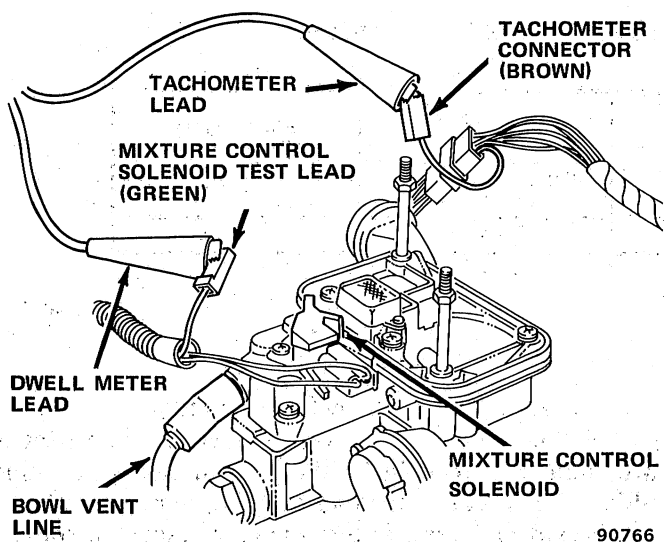

Fig. 1J-157 Idle Mixture Adjustment Preparation
(3) Install carburetor on engine. Install battery negative cable. Do not install air cleaner and gasket.
(4) Disconnect bowl vent hose at carburetor.
(5) Disconnect EGR valve and canister purge vacuum hoses at carburetor and plug carburetor ports.
(6) Connect tachometer to distributor "tach" wire connector located at vicinity of heater blower motor. Connect dwell meter to mixture control solenoid dwell test wire connector (fig. 1J-157).
(7) Place transmission in Neutral and set parking brake.